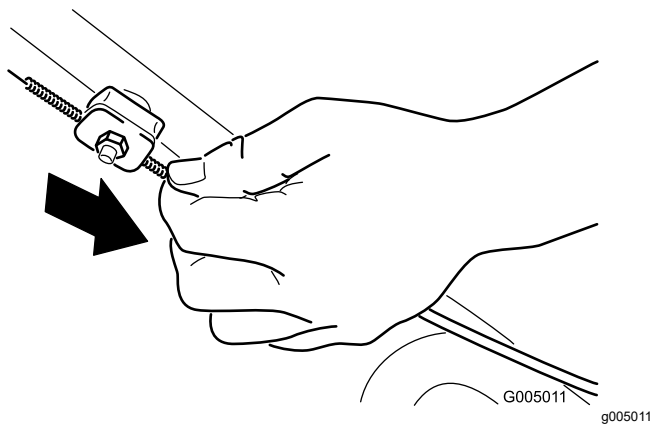

Figure 51
3. Pull down the cable jacket (toward the mower) until there is no slack in the cable (Figure 51).